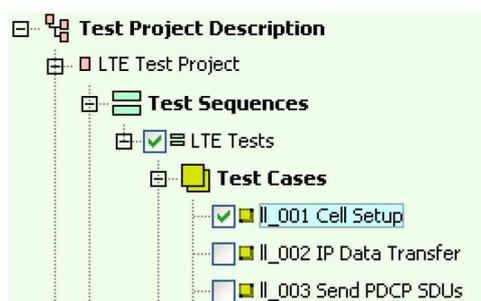

Figure 32: Test cases in the Project Explorer
- ▶ Start the Project Explorer on the R&S CMW (see Figure 32).